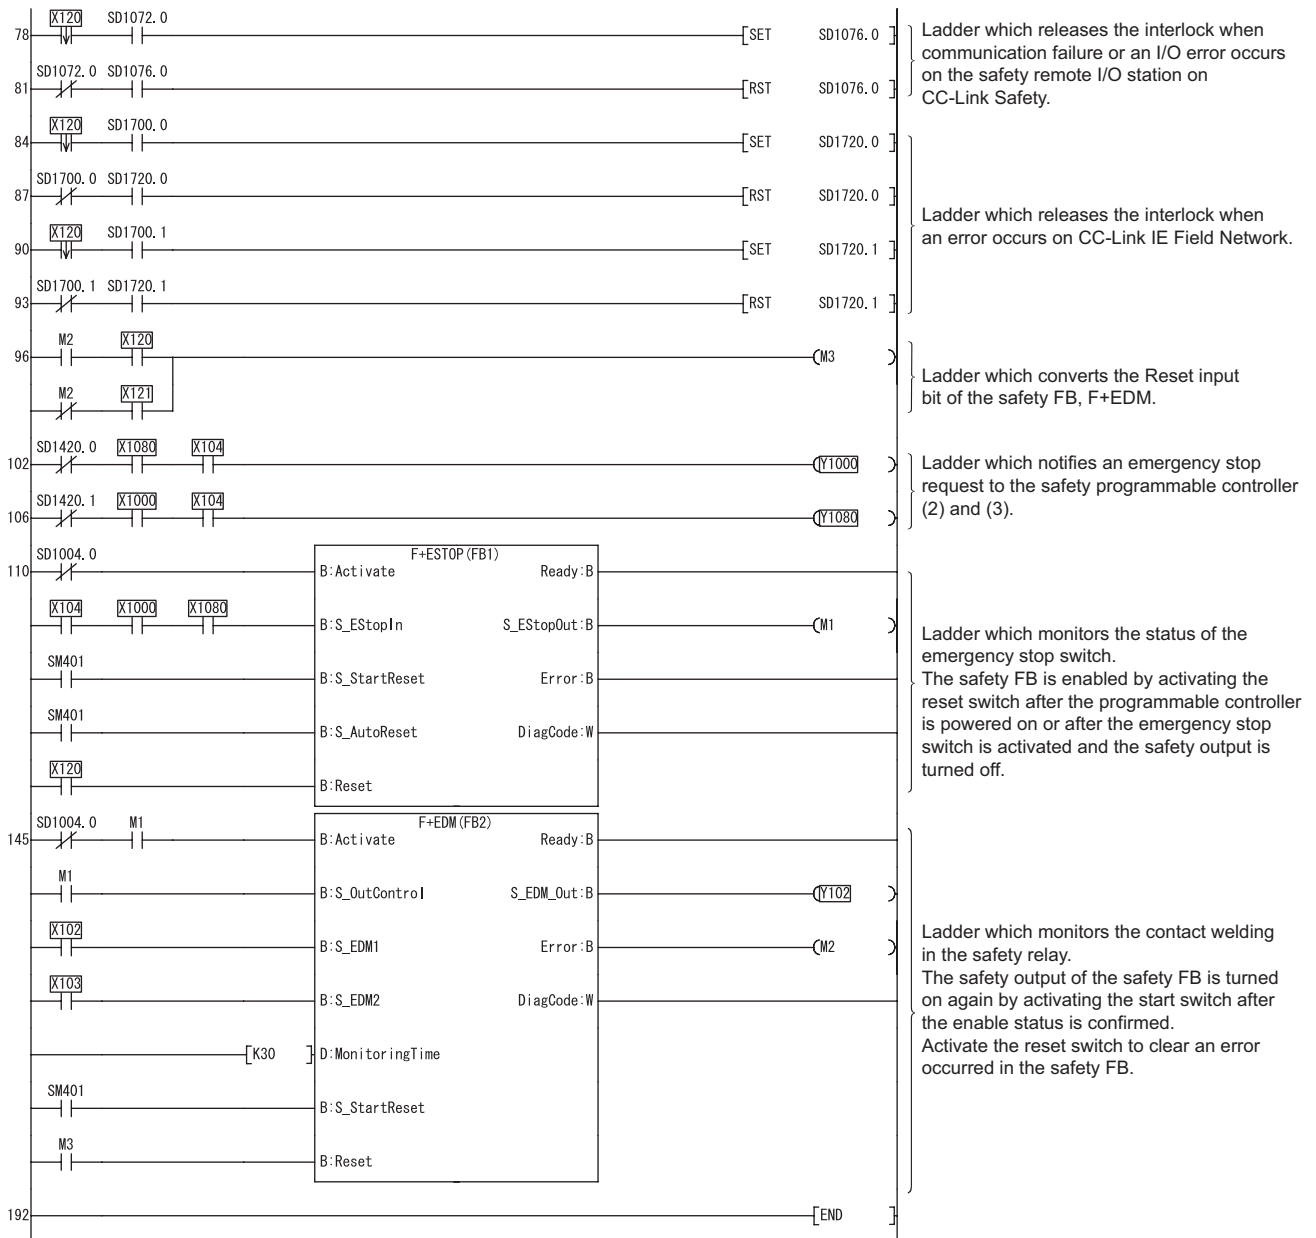
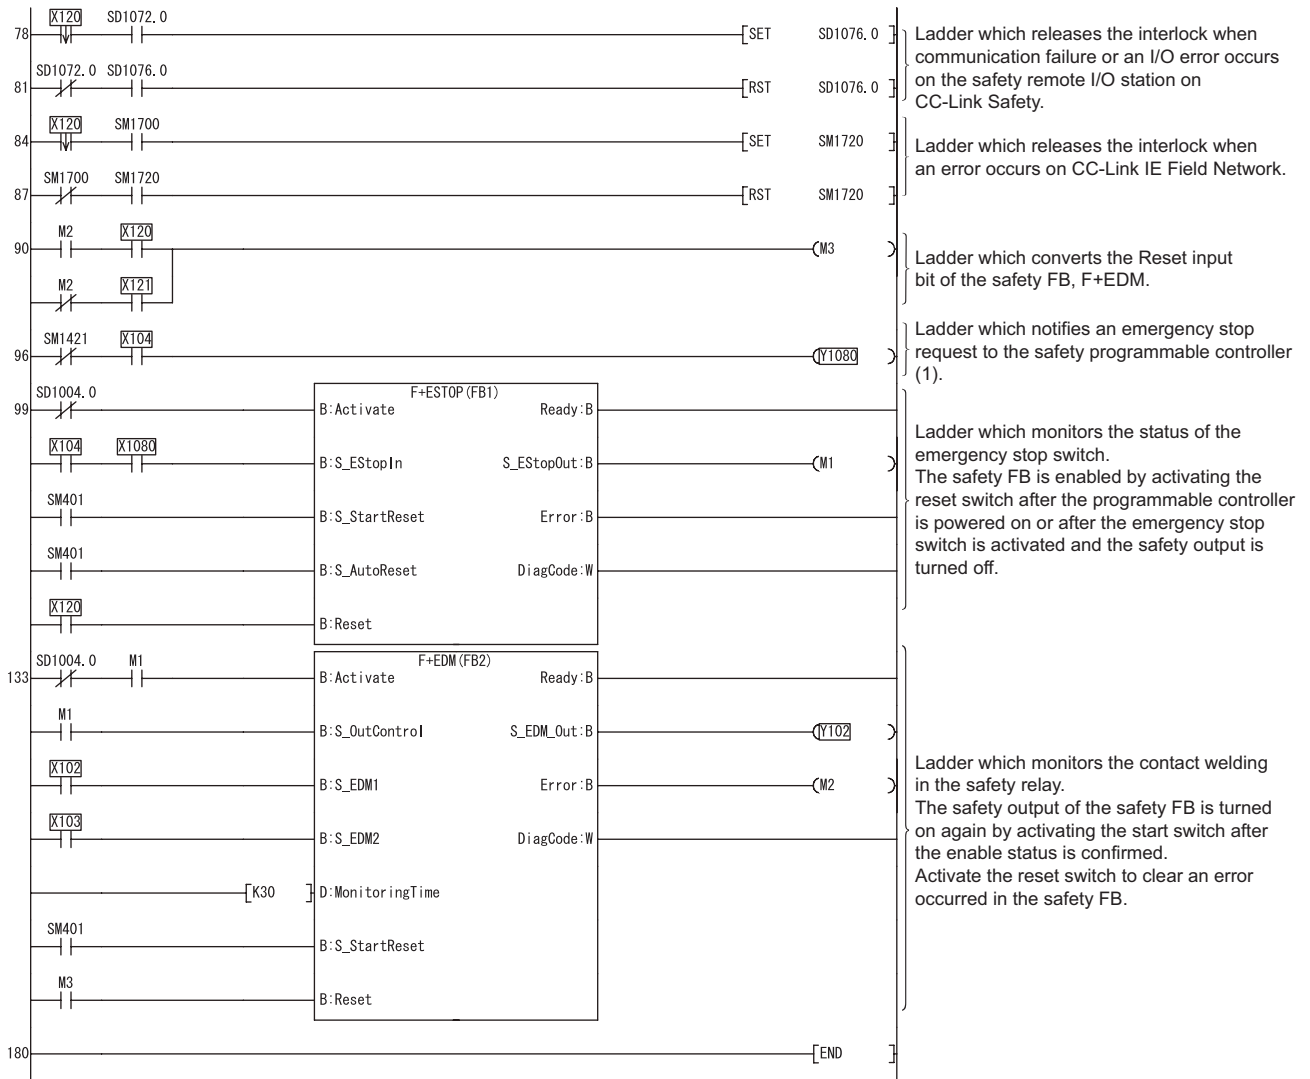

Figure 6.10 Safety FB program for safety programmable controller (1)
Figure 6.12 Safety FB program for safety programmable controller (3)
Figure 6.10 to Figure 6.12 show sequence programs used in safety programmable controllers (1) to (3).